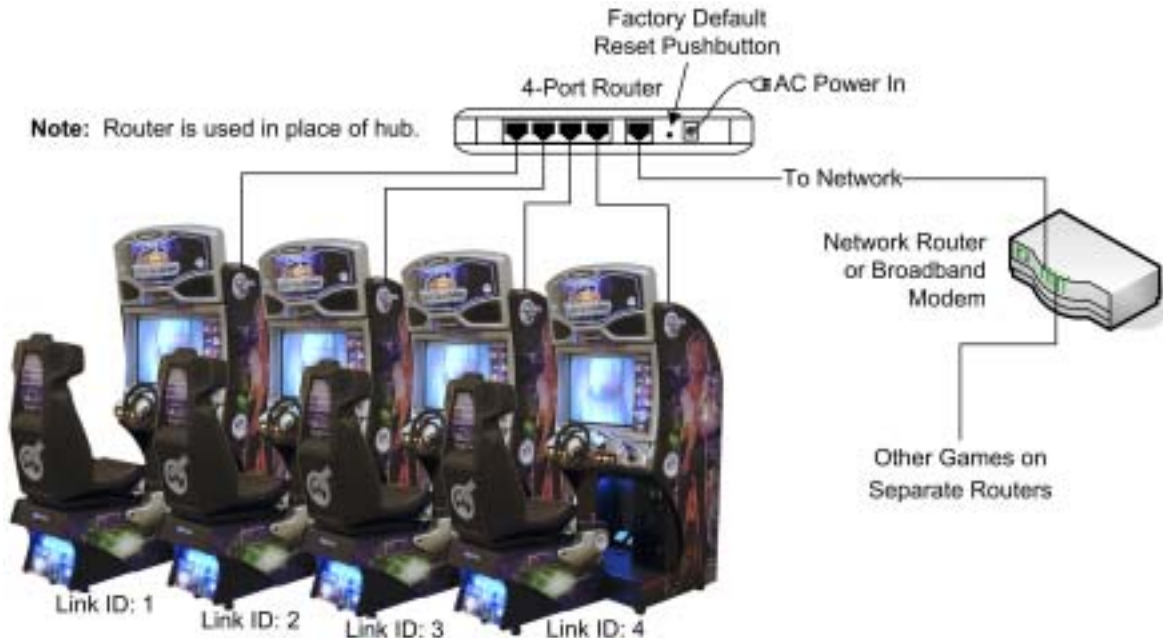

Figure 29. Linking Cabinets with Broadband
3. The router must be configured to Factory Default Settings. If you have used the Router before, or changed its settings, press and hold the reset pushbutton (shown in Figure 29) until the Test LED turns on (about 10 seconds).
5. Connect an Ethernet cable to the Ethernet connector on the power plate of each cabinet, and to router ports 1—4 as shown in Figure 29. Do not use crossover couplers.